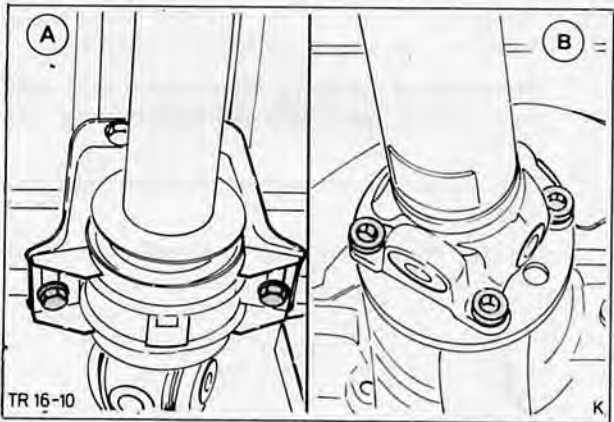

Fig. 141. A – Centre bearing attached to floor pan
- 5. Attach driveshaft to rear axle flange, Fig. 141.
- 6. Bolt centre bearing free of strain to floor pan, Fig. 141.